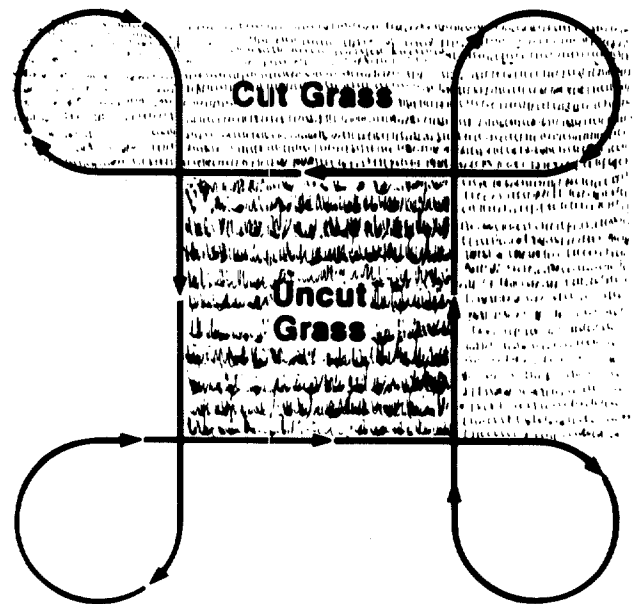

Figure 45
4. Follow the mowing procedure shown in Figure 45.